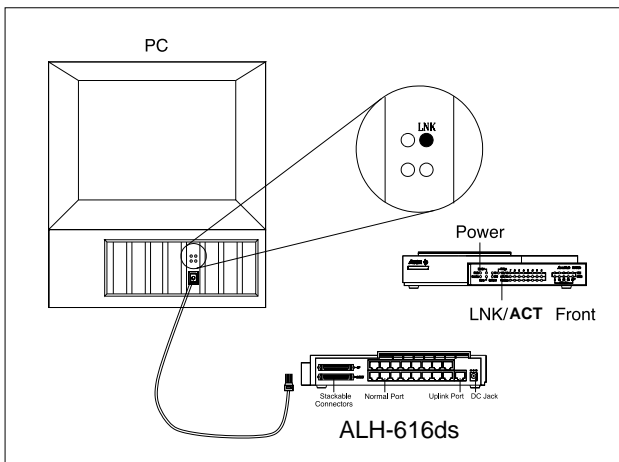

Figure 2-12 Check the Link LEDs both on hub and adapter card
2.3.4 After connecting to the hub, please check if the Link LEDs on the adapter card and the hub(named as LNK/ACT) are lit up, as shown in Figure 2-12. If the LED is not lit up, there must be something wrong and please reference to chapter 4 for quick trouble shooting.